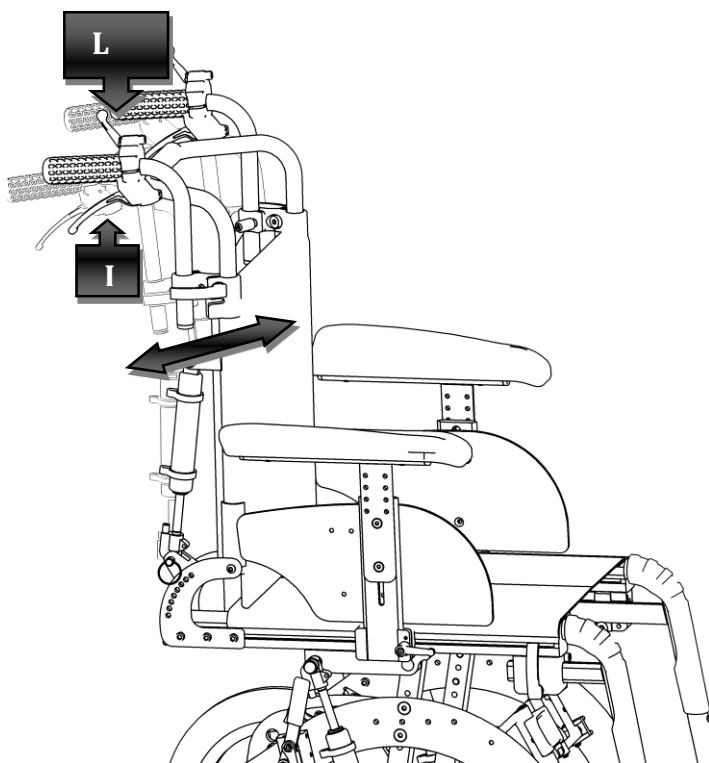

Figure 14
To activate the springs in the backrest it is necessary to apply some upward pressure on the levers (I) placed under the handles as shown in Figure 14.
WARNING: in this configuration the tilting can be realized by acting on the levers (L), shown in Figure 14, placed above the push handles.